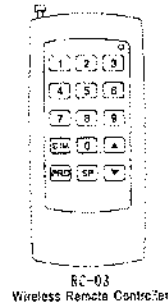

Fig.22
6.Wireless remote controller using(See Fig.22):